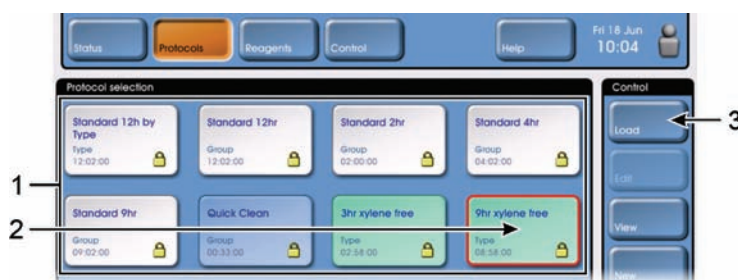

Figure 95: Protocol screen with available protocols (1), selected protocol (2) and Load button (3)
Once selected the protocol will have a red outline (see Figure 95).
3. Select the **Load** button (see Figure 95).